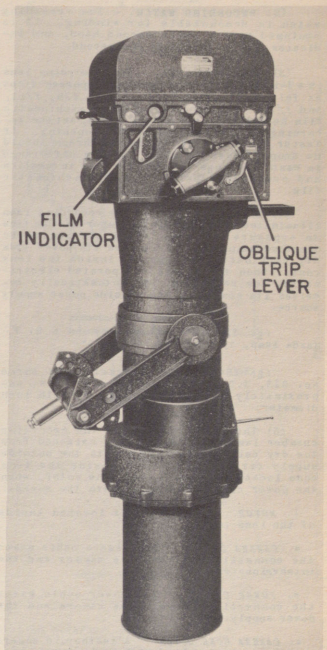

Figure 3 - Type F-56 Camera in Oblique Mount
(1) For vertical photography, the type F-56 aircraft camera is attached to a vertical camera mount in accordance with the instructions governing the particular mount in use.
(2) One type of vertical mount is adjustable for levelling and crabbing and is equipped with a viewfinder.
(3) Another type is non-adjustable for installation of cameras in a fixed position.
(4) After attaching the camera to the vertical mount, connect the cables to the power supply and intervalometer if the camera is to be operated automatically.
c. OBLIQUE PHOTOGRAPHY (See figure 3).
(1) For oblique photography, the 40-inch focal length type F-56 aircraft camera is attached to the type F-56 oblique camera mount.